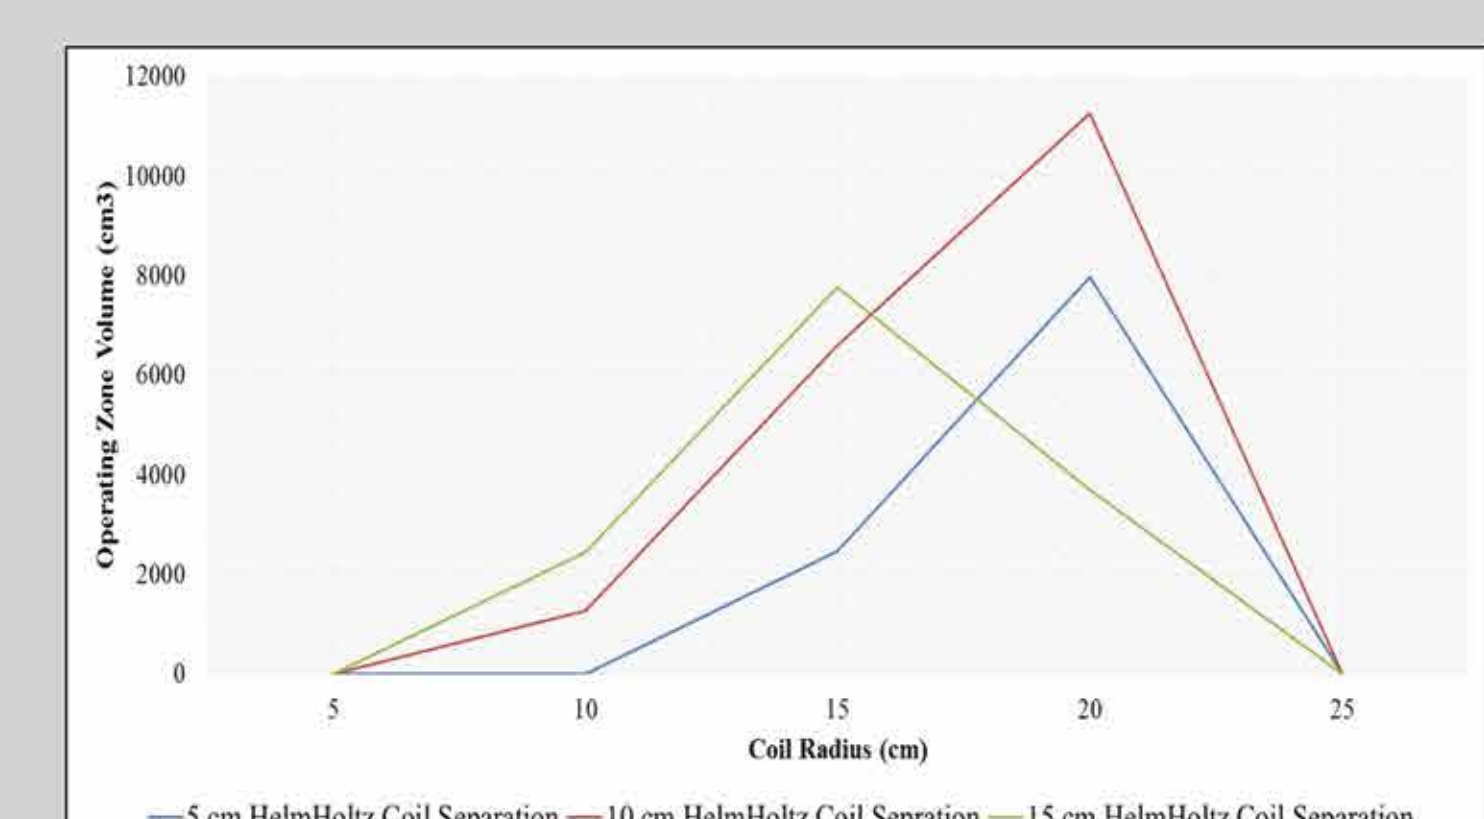

Fig 7: Operating zone volume for different configurations
- Based on the result in Fig 7, we can confirm that a Helmholtz coil with a transmitter radius of 20 cm and a separation of 10 cm is the best model for safely transmitting wireless power of 100 mW to the receiver.